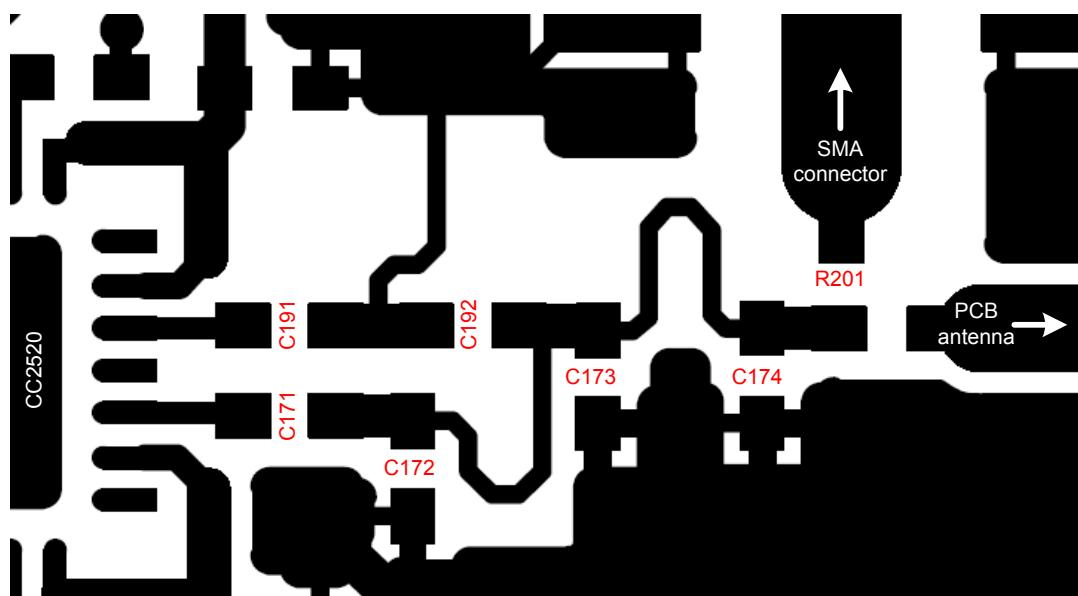

Figure 4: Actual board layout of the RF section of the reference design (rev 2.1).
Very few external components are required for the operation of CC2520. A typical application circuit is shown in Figure 4. Note that it does not show how the board layout should be done. The board layout will greatly influence the RF performance of CC2520.
Figure 4 shows the balun implemented in a two-layer reference design. It consists of three transmission lines (L1, L2 and L3) and the discrete components C191, C171, C192, C173 and C174. The circuit will present the optimum RF termination to CC2520 with a  $50\Omega$  load on the antenna connection.
Proper power supply decoupling must be used for optimum performance. This is shown as a lumped capacitor C1 in Figure 4. The placement and size of the decoupling capacitors and the power supply filtering are very important to achieve the best performance in an application. TI provides a compact reference design that should be followed very closely.
- The balun is highly layout sensitive. The inductors in Figure 4 are actually transmission lines embedded in the PCB and their values must be adapted according to the board layout. The values of the capacitors C192, C172, C173 and C174 must also be adapted to the actual board layout.